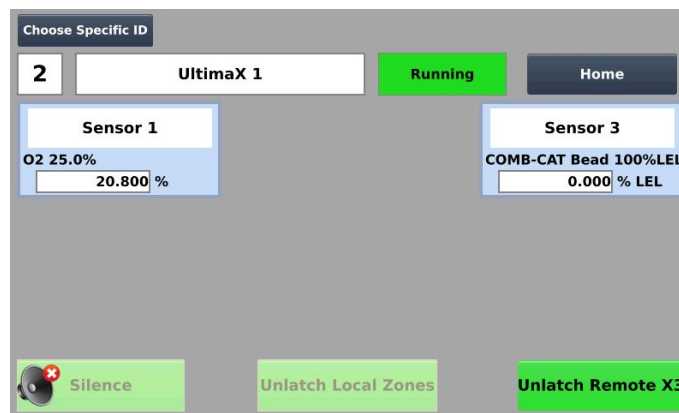

Figure 41. Main Data Screen
- If Latch is selected the zone relay contact will remain in the alarming state even after the alarm condition that it is associated with it has ceased. To change the zone relay contact back to the non-alarming state the user must press the Unlatch Local Zones button on the Main Data Screen, see Figure 41. If No Latch is selected the zone relay contact will return to the non-alarming state automatically after the alarm condition that it is associated with has ceased.